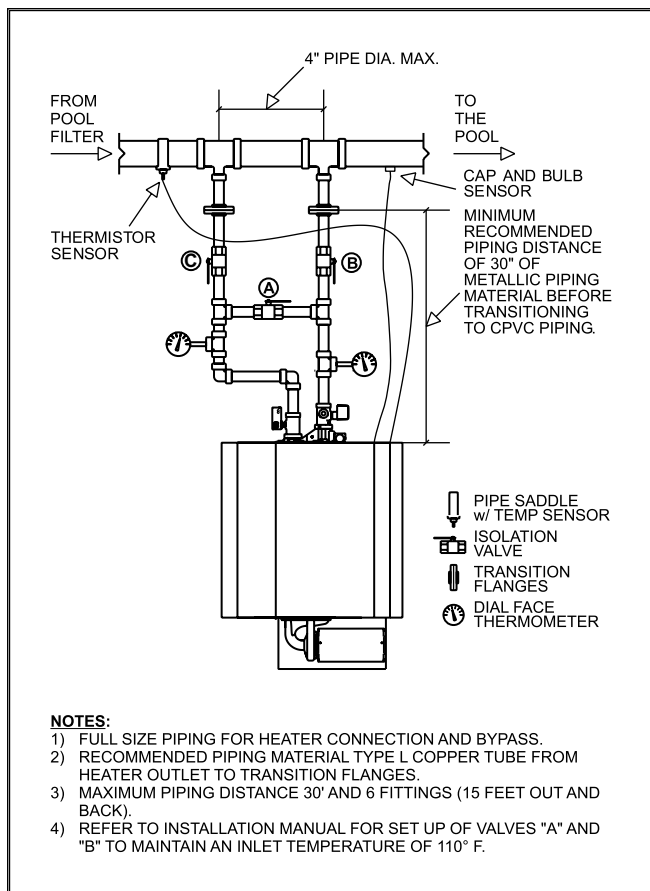

Figure 10 - Heater Piping Arrangement
In addition to the bypass valve "A" and outlet valve "B" shown in Figure 10, an inlet valve "C" should be provided so that the heater can be readily isolated for service. Butterfly and globe valves are recommended for this application to allow for precise adjustment of water flows. For spa applications see Section 3.9.
All AP series heaters, 500-1825 models, must be installed with bypass piping. Please use Figure 10 as your guide to plumb the bypass. For spas see Section 3.9.
All models are supplied with integral pumps. These pumps are sized for the pressure drop through the heat exchanger, 30' of piping, and through the bypass piping as shown in Figure 10.
All models must be installed in the primary/secondary arrangement shown. The heater loop piping must tee into the filter loop piping with the inlet and outlet connection spaced a maximum of 4 pipe diameters apart (see Figure 10).
Two temperature sensing devices are installed on the heater that require sensing bulbs be field installed according to Figure 10.
- Since outlet temperatures can approach 140°F (60°C) units must be piped in a Primary/Secondary style similar to that shown in Figure 10.